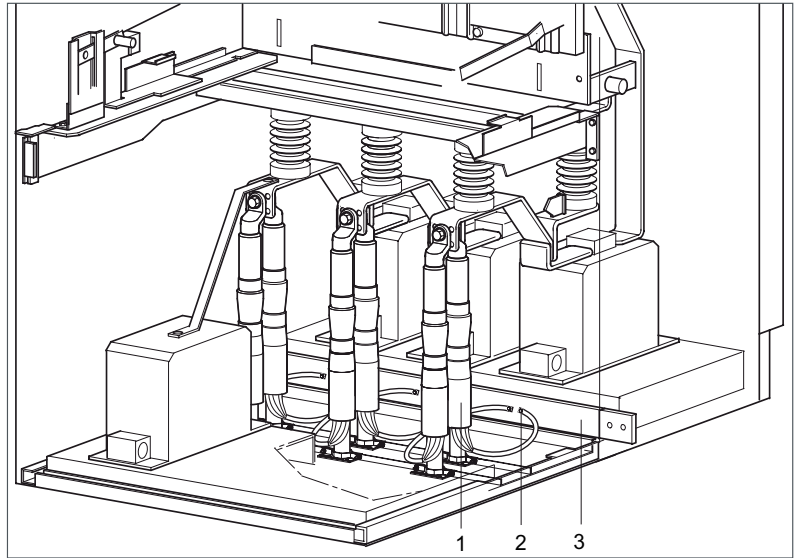
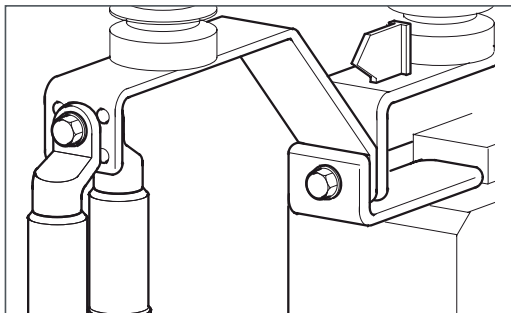

Fig. 6.6
Fig. 6.7
- Fasten the individual cables to the appropriate connection surfaces (Fig. 6.6 to 6.8). In case of two cables per phase: Connect the two cables to the first connection (Fig. 6.7).